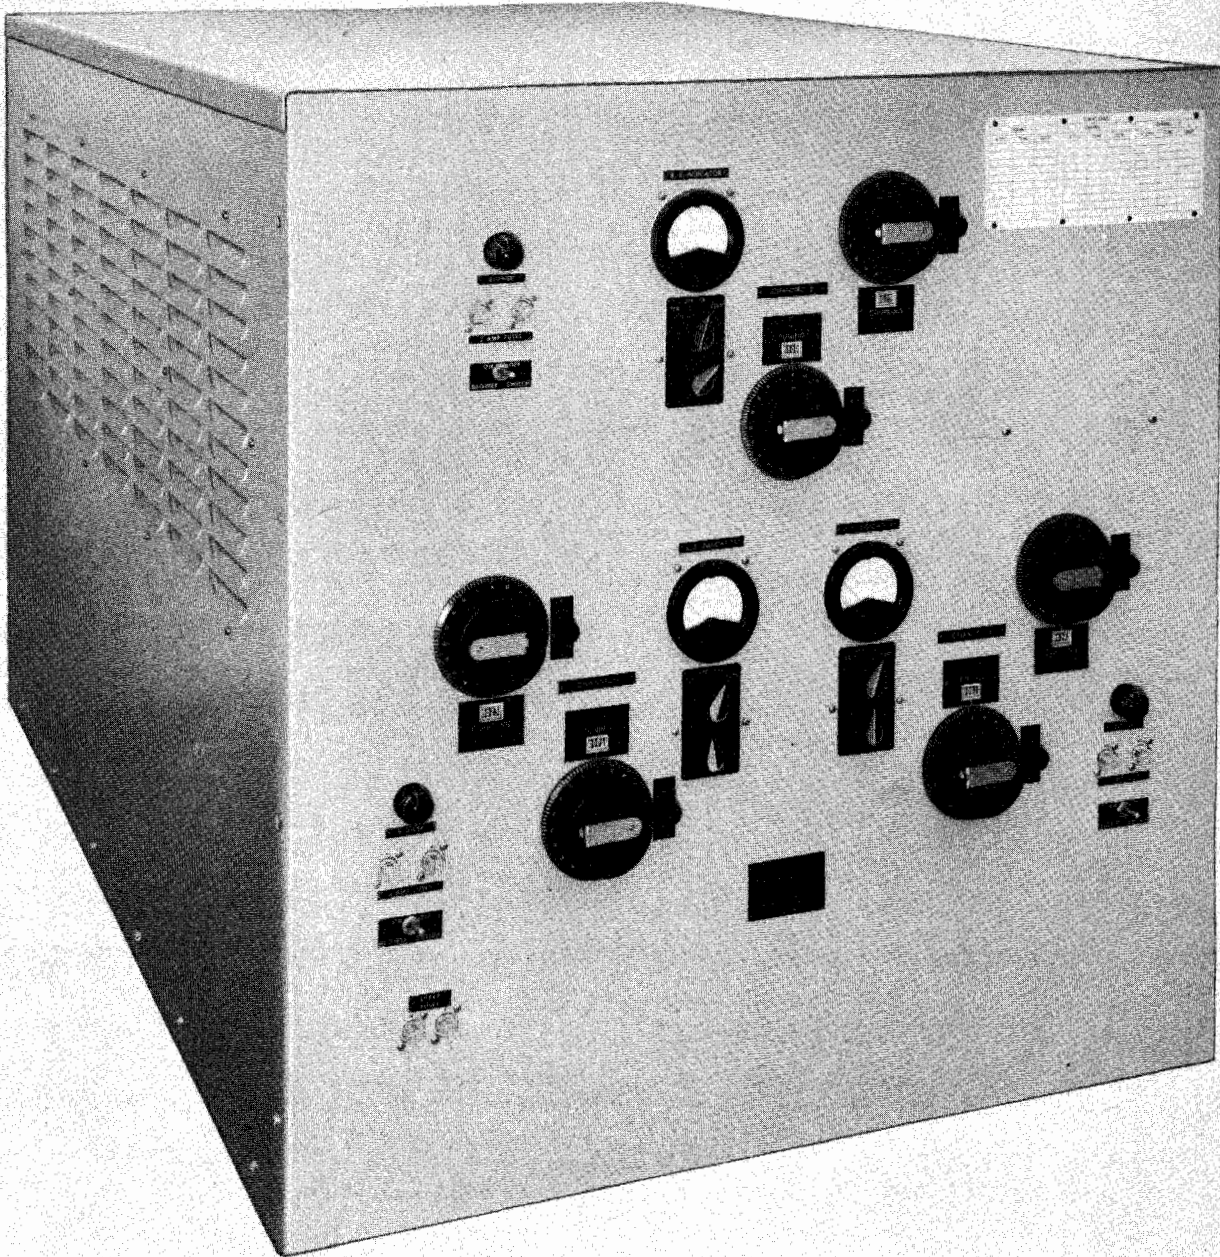

Figure 1-1. Antenna Coupler Group AN/FRA-49(V)
The Antenna coupler group (figure 1-1) consists of three antenna couplers that may be any desired combination of Antenna Coupler CU-998/FRA-49(V) and Antenna Coupler CU-999/FRA-49(V) housed in an Electrical Equipment Cabinet CY-3409/FRA-49(V). Circulating air is drawn from behind the cabinet by means of three individually controlled electric fans to dissipate heat.